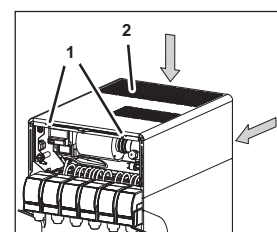

Fig. 39
4. Position the new cover (Fig. 39/2) on the unit.
5. Attach the cover (Fig. 39/2) on the unit using the fastening bolts (Fig. 39/1).